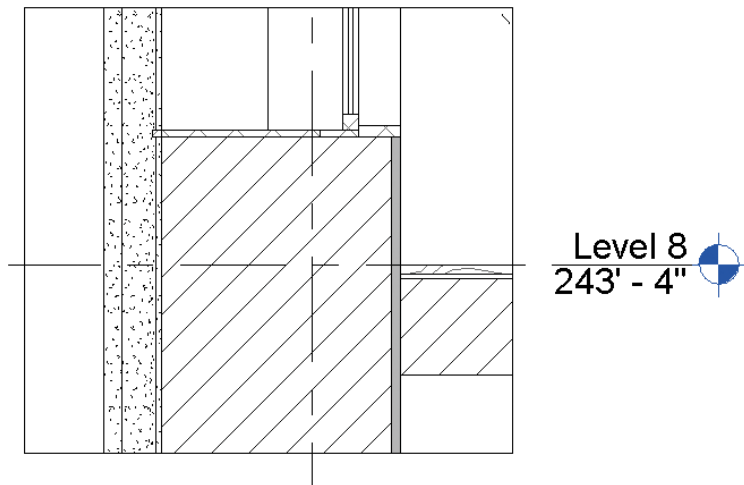

FIGURE 11.3 The window sill detail before embellishment
1. Use the Callout tool on the View tab to create a new detail of the second-floor window sill: create a new callout, and name it **Exterior Window Sill, Typ**. The starting view looks like Figure 11.3.